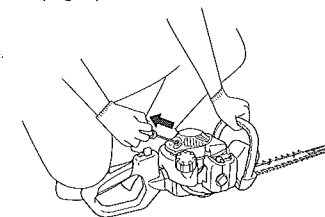

Fig. 6
3. Pull recoil starter briskly, taking care to keep the handle in your grasp and not allowing it to snap back. (Fig. 6)